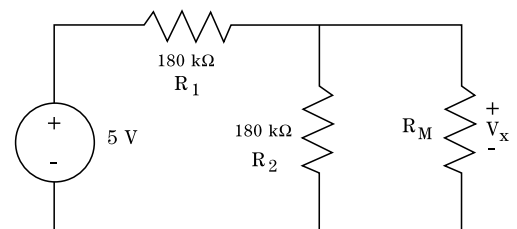

Figure 4
- Figure 4 represents an equivalent circuit that occurs when an attempt is made to measure V_x with an AMM. In Fig. 4, R_M is the input resistance of the AMM. This equivalent circuit will be used to develop a method of characterizing the input resistance of the analog meter on each of the available ranges.